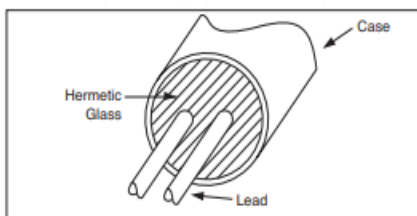

Figure 1
- Structure-Cylinder crystals are hermetically sealed using glass to metal seals (see figs 1 and 2)